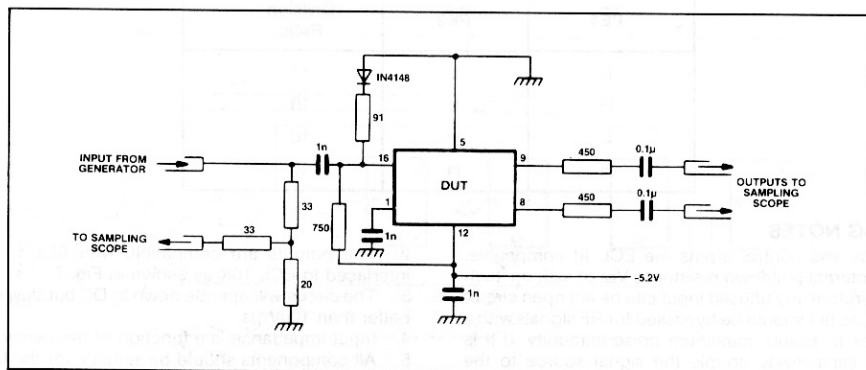

Fig.6 Test circuit
3. The test configuration for dynamic testing is shown in Fig.6.
1. The clock and control inputs are ECL III compatible. There is an internal pulldown resistor to  $V_{EE}$  of 4.3k on each input and therefore any unused input can be left open circuit when not in use but should be bypassed for RF signals with a 1nF capacitor to ensure maximum noise immunity. If it is desirable to capacitively couple the signal source to the clock input then an external bias is required as shown in Fig. 6. The external bias voltage should be -1.3V at 25°C.